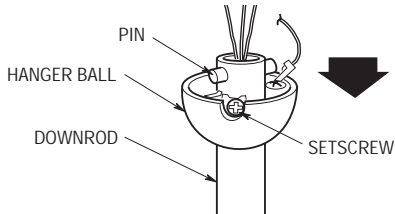

Figure 1
2. Remove the hanger ball from the downrod by loosening the setscrew in the hanger ball until the ball falls freely down the downrod (Figure 1). Remove the pin from the downrod, then remove the hanger ball. Retain the pin and hanger ball for reinstallation in step 9.